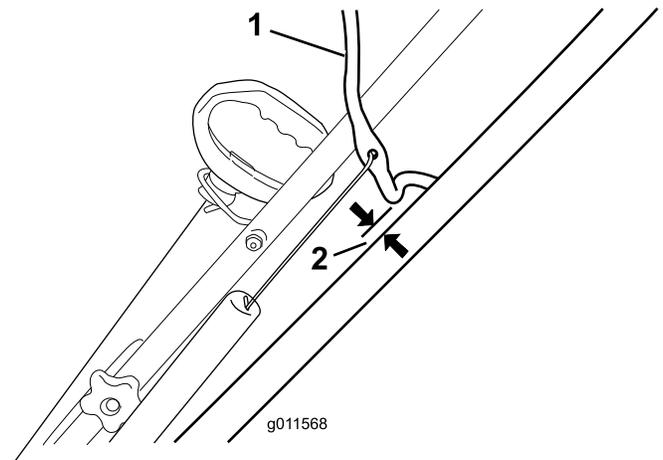

Figure 9
Move the control bar back toward the handle to remove the slack in the control cable (Figure 9).
**Note:** Ensure that a gap of 2 to 3 mm (1/16 to 1/8 inch) exists between the control bar and the handle (Figure 9).